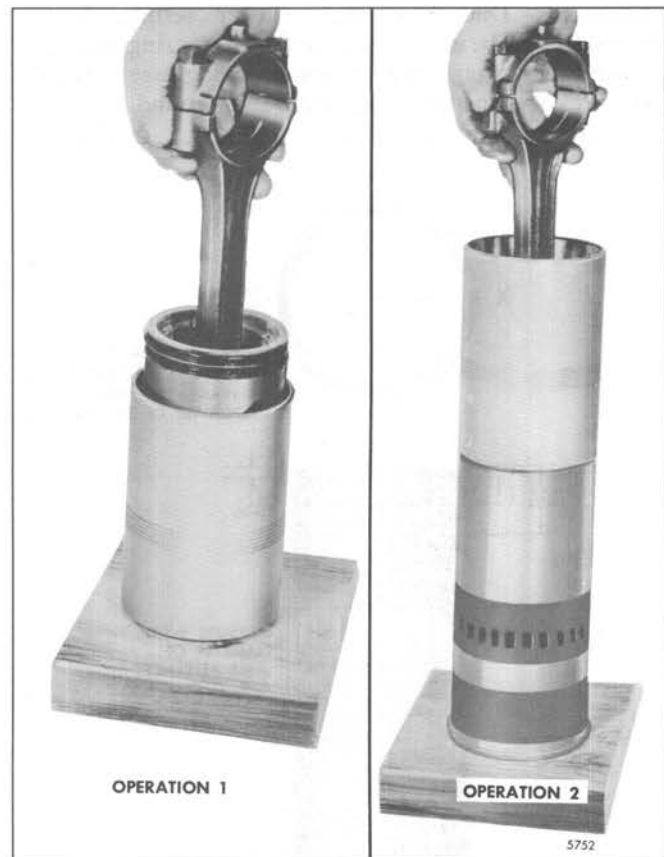

Fig. 8 - Installing Piston and Connecting Rod Assembly in Ring Compressor and Cylinder Liner
4. Start the top of the piston straight into the ring compressor. Then, push the piston down until it contacts the wood block ("Operation 1" of Fig. 8).
6. Place the ring compressor and the piston and connecting rod assembly on the liner so the numbers on the rod and cap are aligned with the matchmark on the liner ("Operation 2" of Fig. 8). The numbers on the side of the connecting rod and cap identify the rod with the cap and indicate the particular cylinder in which they are used. If a new service connecting rod is to be installed, the same identification numbers must be stamped in the same location as on the connecting rod that was replaced.